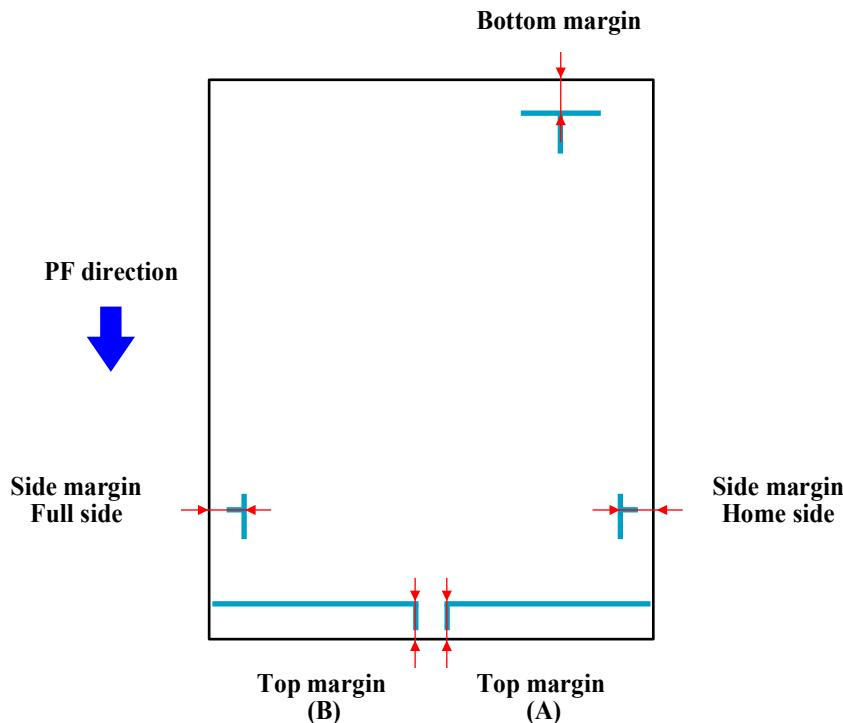

Figure 4-85. Adjustment pattern
5. Measure the distance for the positions shown in Figure 4-85.